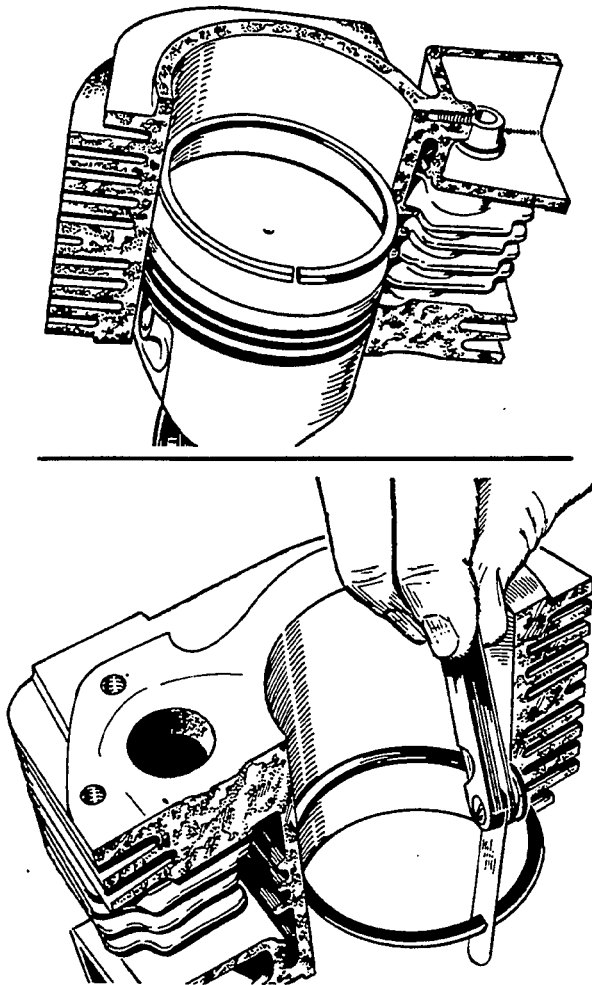

FIGURE 68. POSITIONING OF PISTON RING AND MEASURING OF END GAP
1. Install the piston ring in the cylinder bore. Invert the piston and push the ring to the end of ring travel, about halfway into the bore. This trues the ring end gap. Check the gap with a feeler gauge (Figure 68).